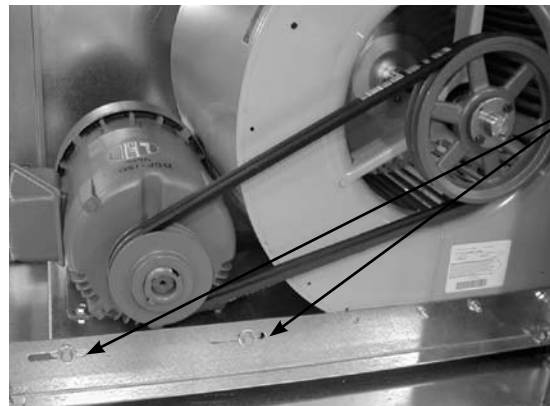
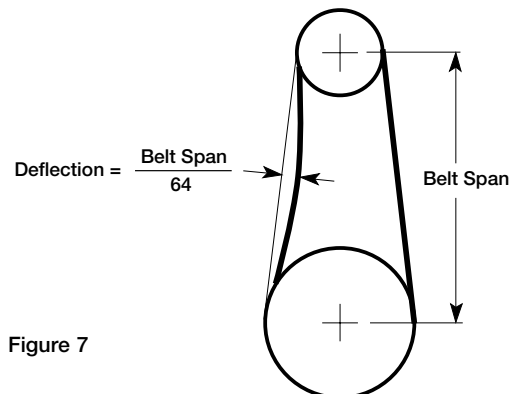

Figure 6
Figure 7
6. **For all BDF Fans:** Belt tension can be adjusted by loosening four fasteners (marked "R", figure 6) on the drive frame. The motor plate slides on the slotted adjusting arms (see figure 17). Belt tension should be adjusted to allow 1/64 inch of deflection per inch of belt span. For example, a 15 inch belt span should have 15/64 inch (or about 1/4 inch) of deflection with moderate thumb pressure at mid-point between pulleys (See figure 7). Overtightening will cause excessive bearing wear and noise. Too little tension will cause slippage at startup and uneven wear.
Belts too tight or too loose	Adjust tension, see figure 7.